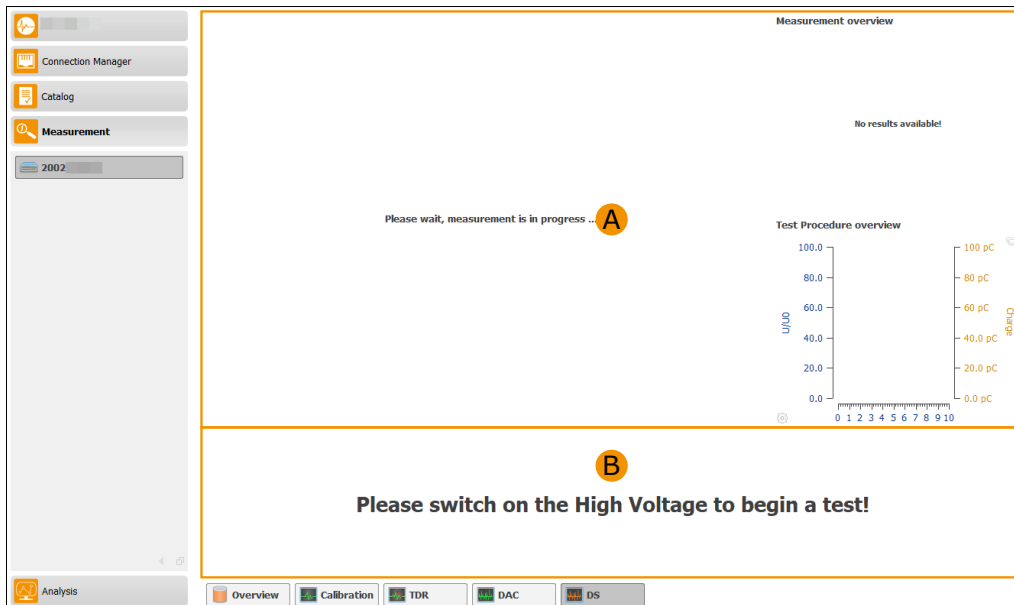
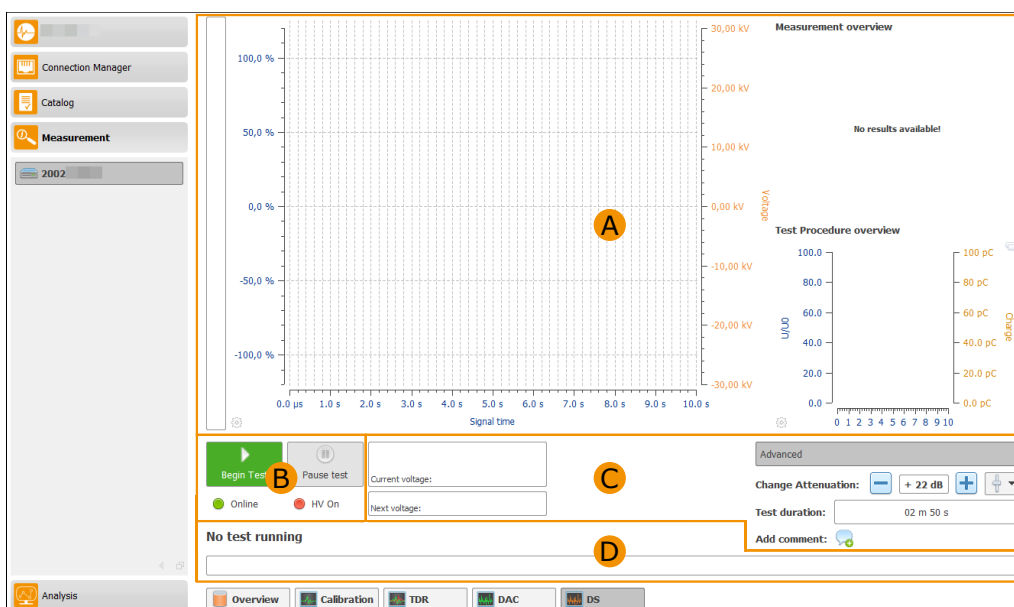

Figure 7.26: Double side measurement overview high voltage off (simple mode)
Figure 7.27: Double side measurement overview high voltage on (simple mode)
This chapter describes the UI elements that are available for a Double side measurement in Simple mode. Figure 7.26 shows the general structure of the measurement surface if now high voltage is switched on. In this case the **B** area displays the information for switching on the high voltage before a test could be started. After switching on the high voltage the user interface changes the **B** area like shown in Figure 7.27. The area **B** contains now three part which are available during the measurement. Now the **B** area contains buttons available for performing the test and showing the current status for high voltage. **C** is used to display current data and the advanced options. In the area **D** the current progress and the status of the measurement is displayed.
**A** in Figure 7.27 displays the measurement results of the last shot. The following elements (cf. Table 7.12) are available:
**B** in Figure 7.27 shows elements that are needed to perform a Double side measurement. Table 7.13 describes the elements.
in Figure 7.27 contains element for setting the device and displays measurement values. Table 7.14 describes the elements.
in Figure 7.27 depicted the status elements for the simple measurement mode. The upper line contains the information in which step the software is currently perform. The lower progress bar depicted the current progress of the procedure.